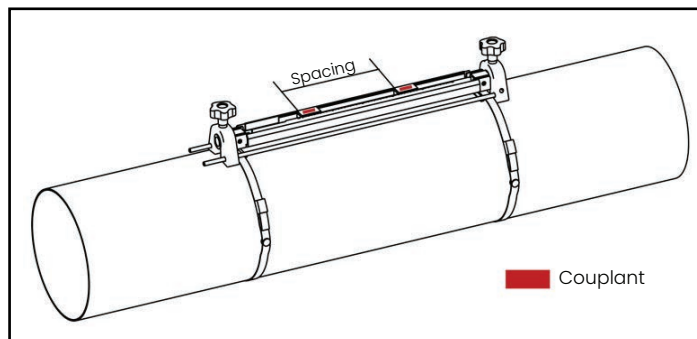

Figure 13: Set transducer spacing and apply couplant
- b. Set the transducers to the spacing calculated by the meter. If you are using solid couplant, apply it to both transducer faces. Then, rotate the transducers back onto the rail (see Figure 13 below).